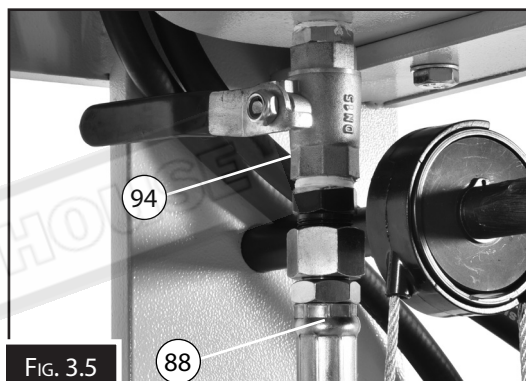

FIG. 3.5
2. To avoid oil spillage from the oil hose (88), a plug (93) has been added in the oil hose when packing. To remove the plug, cut the oil hose with the plug about 10mm length. Then connect the oil hose (88) to 1/2" connector (94) (Fig. 3.5). Once the oil supply hose is connected, open the oil tank valve to allow the flow of oil and check for leaks.